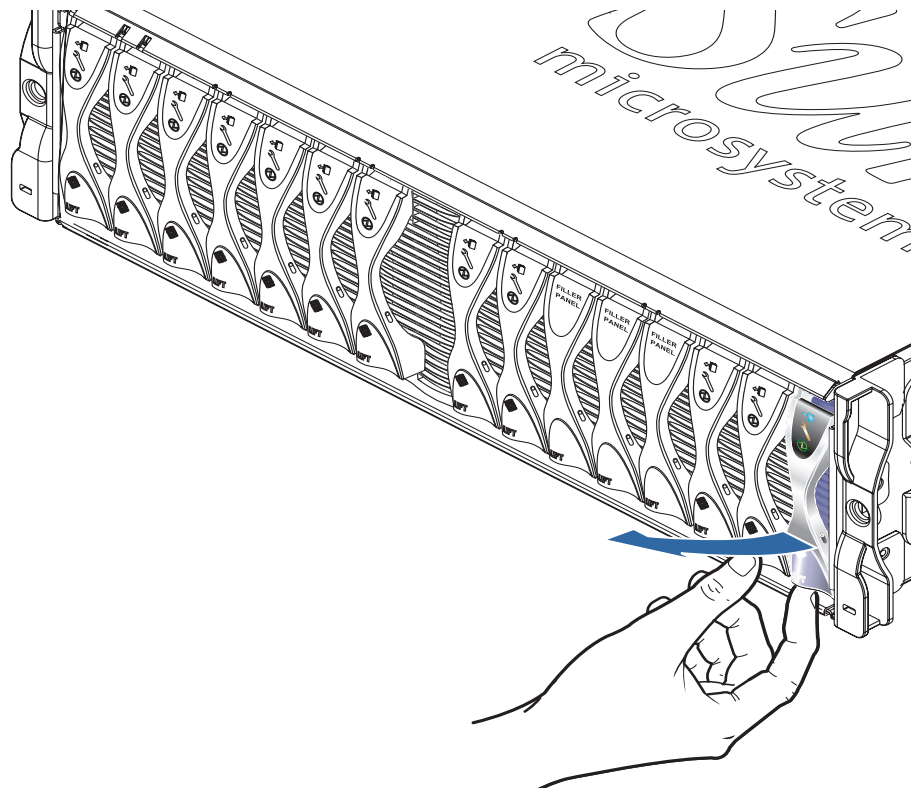

FIGURE 3-2 Disengaging the Blade Locking Mechanism
2. Insert your finger in the pull recess located at the bottom front of the blade lever and pull gently to disengage the locking mechanism (FIGURE 3-2).